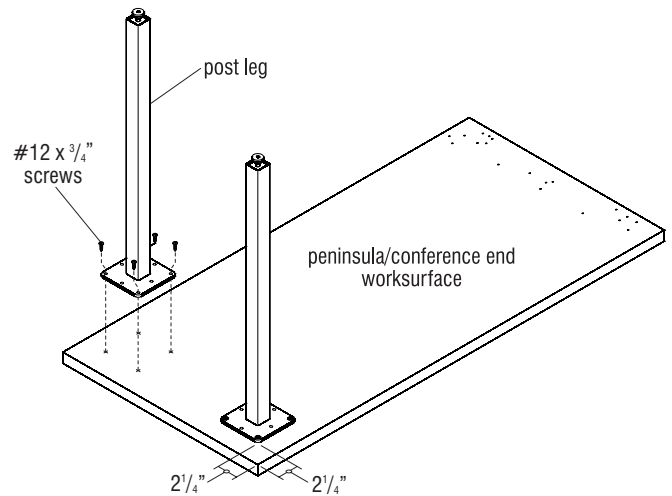

Figure 16 - Post Leg to Peninsula/Conference End Worksurfaces
2. Position both post legs onto the underside of the worksurface, square to the corner with the edge of the mounting flanges spaced  $2\frac{1}{4}$ " from the outside edges of the worksurface as illustrated. Using the mounting flanges as a template, carefully drill four  $\frac{1}{8}$ " diameter holes to no more than  $\frac{1}{2}$ " deep into underside of worksurface at both post leg mounting brackets. Take care to not drill too deep or damage to the surface may occur. Secure each post leg to the underside of the worksurface using four  $\#12 \times \frac{3}{4}$ " screws. Take care to not over-tighten the screws (Figure 16).